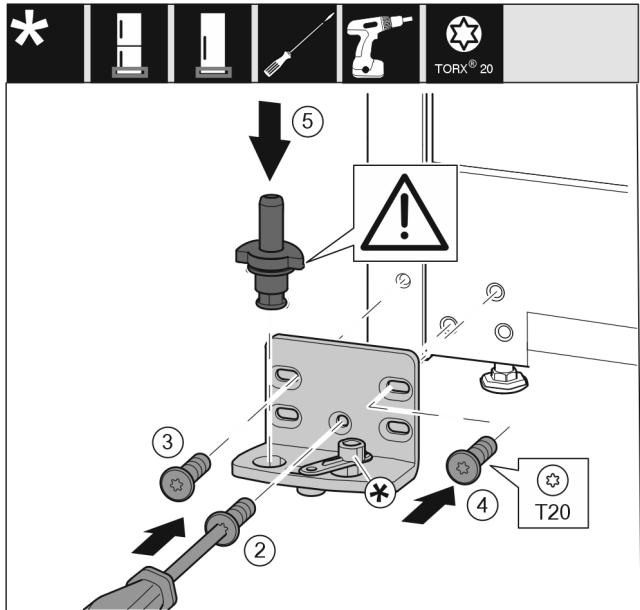

Fig. 16
- ▶ Place the swap bearing block on the other side and use a screwdriver to screw it on. Start with the screw Fig. 16 (2) at the bottom in the middle.
- ▶ Tighten screw Fig. 16 (3) and screw Fig. 16 (4).
- ▶ Insert the bearing bolt Fig. 16 (5) completely. Ensure that the latching cam is pointing towards the rear.